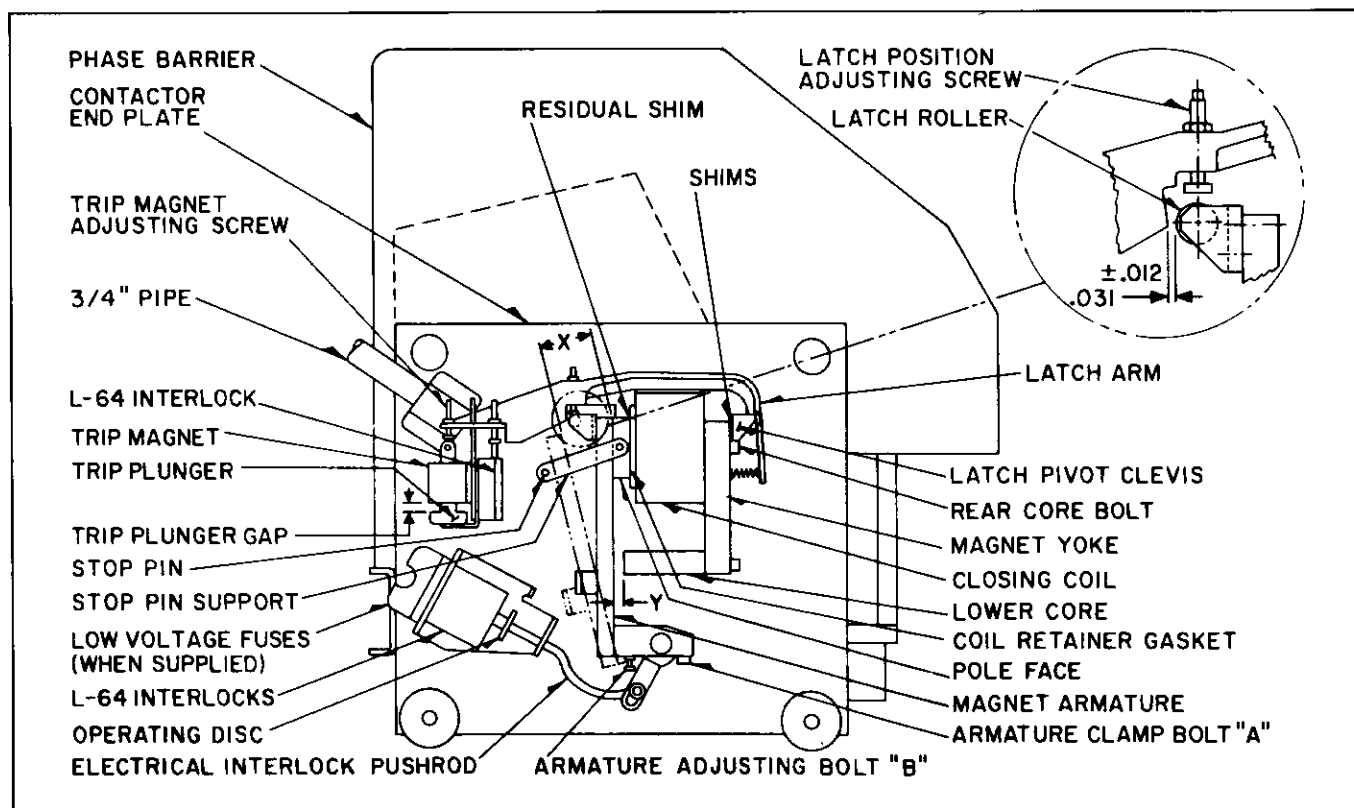

Fig. 11 Magnet Adjustments (Dwg. 3513C85)
Check, and if necessary adjust contact overtravel. Overtravel is measured at point "X" of Figure 11 at the tip of the magnet armature. With new contacts this dimension should be .62" + .016" when the main contacts are at the touch point. Contact overtravel adjustment is made as follows:
1. Loosen the two bolts at "A" in Figure 11 which clamp the magnet armature to the shaft.
2. Block the magnet armature to provide a gap of .62" at point "X" of Figure 11.
3. Adjust bolt "B" in Figure 11 as required to make contacts just touch. With this adjustment contact open gap should be $1" \pm .125"$ measured at the heel of contact faces when the armature is resting against the stop pin.
roller by $.031 \pm .012$ ", when the latch arm drops into the latched position and the closing magnet armature is tight against the pole face. (See Figure 11).
4. Install the new coil on the core assembly being sure the residual shim and coil retainer gasket are mounted as shown in Figure 11.